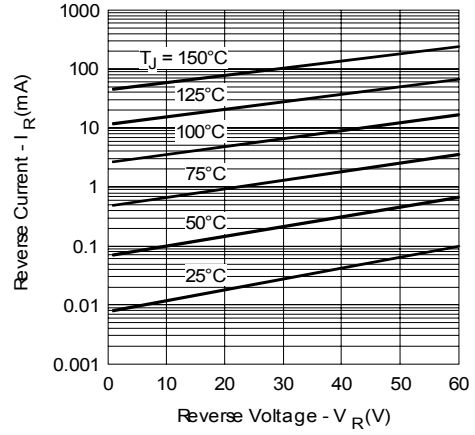

Fig. 2 - Typical Values Of Reverse Current Vs. Reverse Voltage (Per Leg)
| $I_{RM}$ Max. Reverse Leakage Current (Per Leg) * See Fig. 2 (1) | 289                      | mA               | $T_J = 25^\circ\text{C}$$T_J = 125^\circ\text{C}$$V_R = \text{rated } V_R$        |